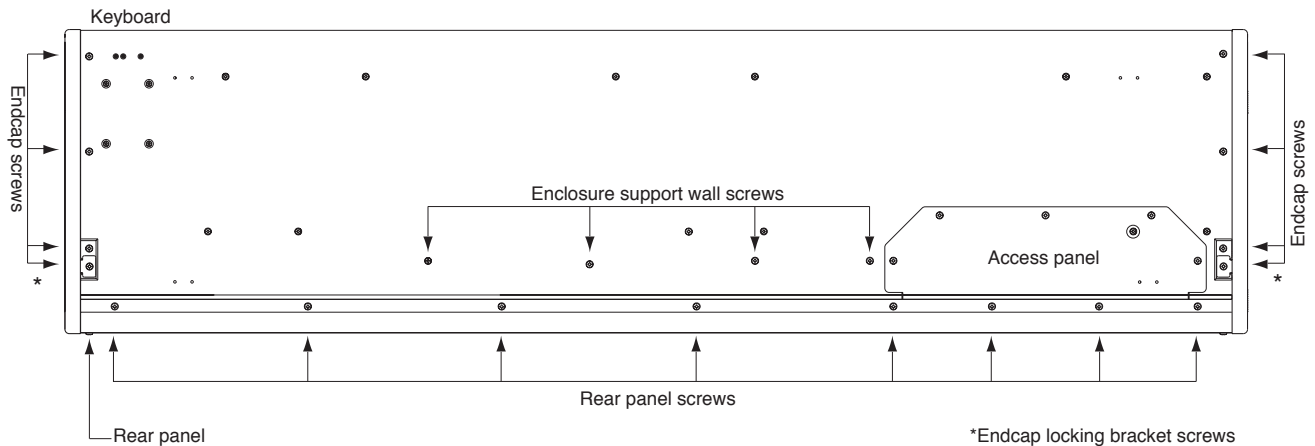

Figure 3-1 PC3x bottom enclosure
Refer to Figure 3-1. Arrows indicate the locations of the enclosure support wall, endcap and rear panel screws.
3. Refer to Figure 3-1. Move the unit so that one end hangs over the edge of your work surface.
1. Refer to Figure 3-1. Tilt the unit up and install the four enclosure support wall screws.